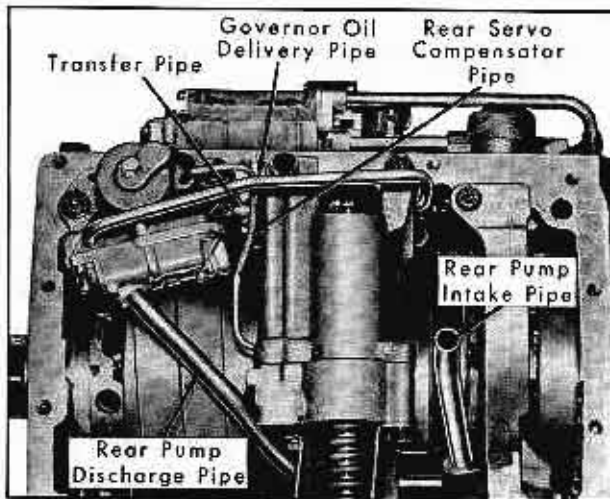

Fig. 14-19 Removing Governor Oil Delivery Pipe
1. Remove governor oil delivery pipe. Be careful not to crush this pipe when prying it from front servo and governor. Fig. 14-19.